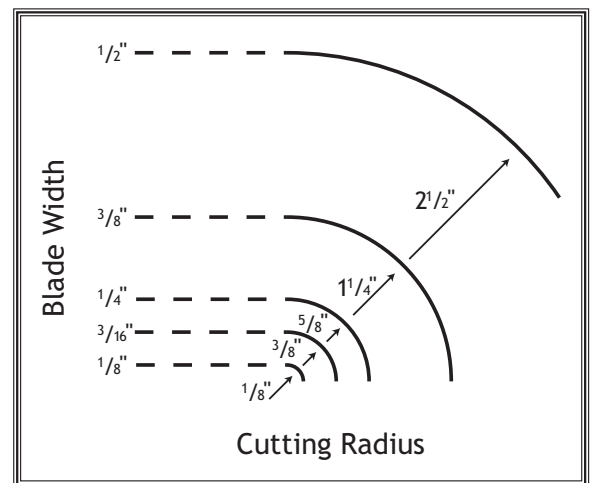

Figure 48. Blade width radii.
- **Curve Cutting:** Use the chart in **Figure 48** to determine the correct blade for curve cutting. Determine the smallest radius curve that will be cut on your workpiece and use the corresponding blade width.